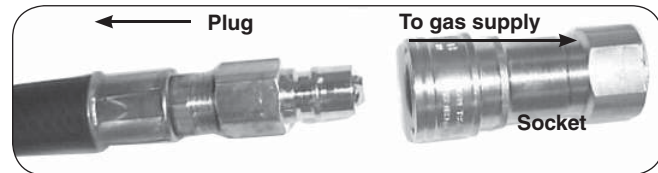

Fig. 1-4 Pull out plug
2. Pull sleeve back and pull out plug (Fig. 1-4).